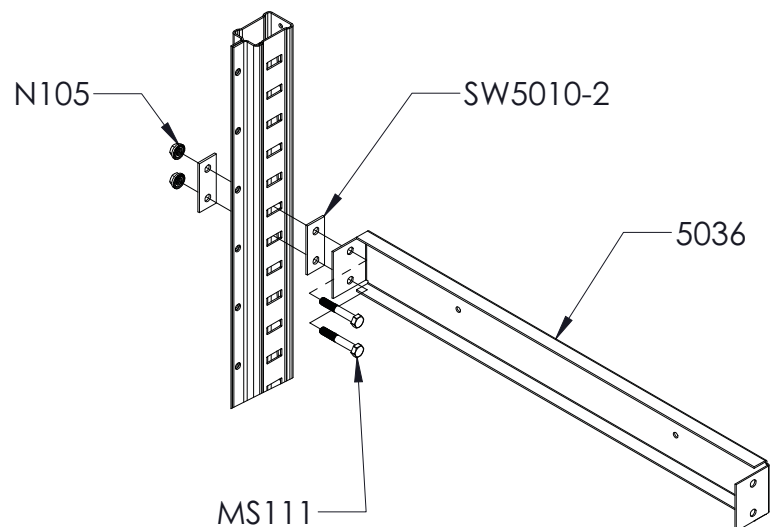

Figure 2
- Assemble Stabilizer Beams onto one set of Side Panels (Figure 2).